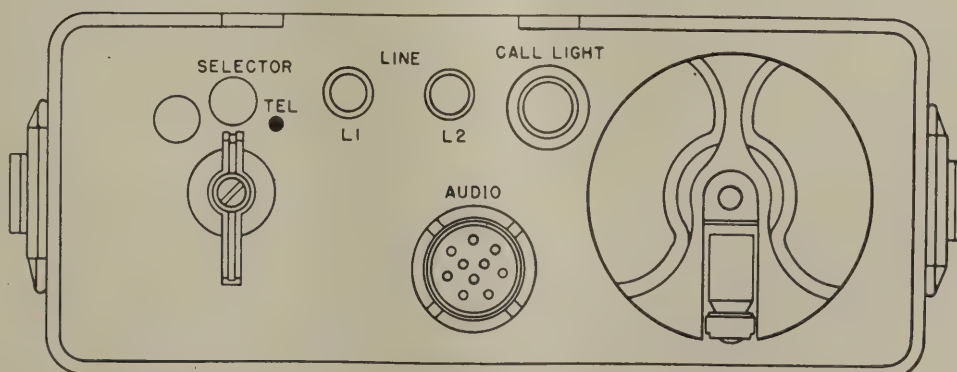

Figure 64. Panel view of remote control unit.
- a. Set the panel-mounted SELECTOR switch to the TEL position (fig. 64).
Figure 64 illustrates the controls and connectors on Remote Control C-433/GRC. The controls and their functions are described in the following chart: